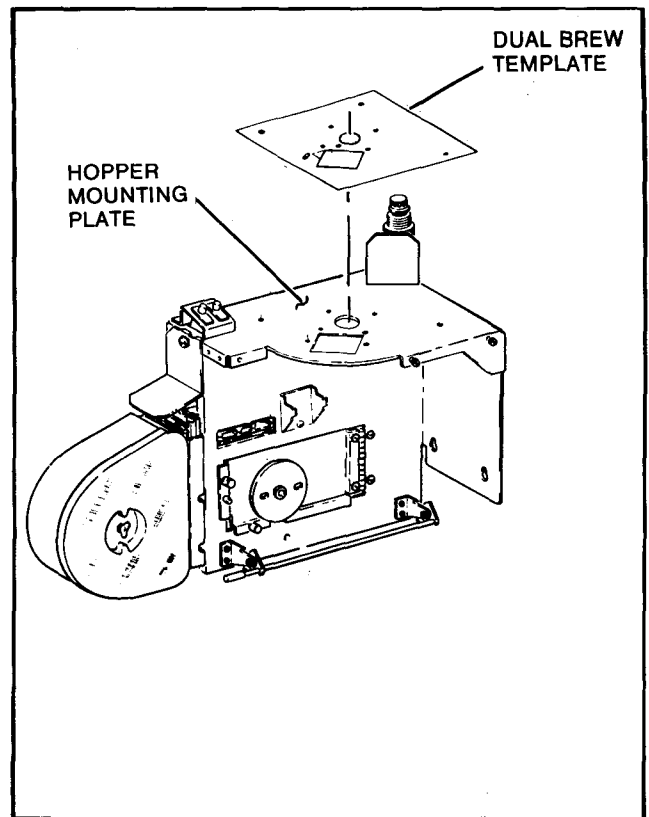

Figure 4
4. Remove the Template Sheet from the Kit Instructions. (last page) Cut out the solid areas. Place the template over the Hopper Mounting Plate and match like areas. See Figure 4. After the template is in position, tape it in place.